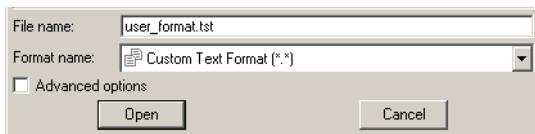

Figure 4-3. Custom Text Format
- In the **Open** or **Save as** dialog box, select “Custom Text Format” in the *Format name* drop-down list and type a name for the file in the *File name* field (Figure 4-3). Click **Open/Save**.